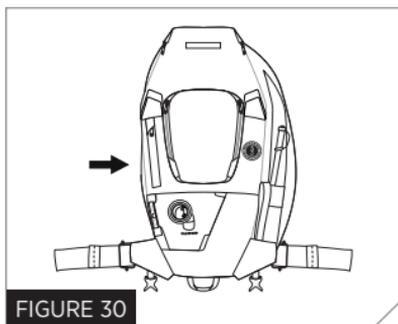

FIGURE 30
6. Fold in the sides, making sure to tuck in reflective material and oral tube on (wearer's) left side and whistle on the right side (Fig. 30)